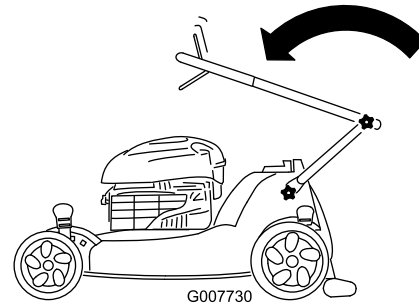

Figure 56
2. Fold the upper handle forward as shown in Figure 56.